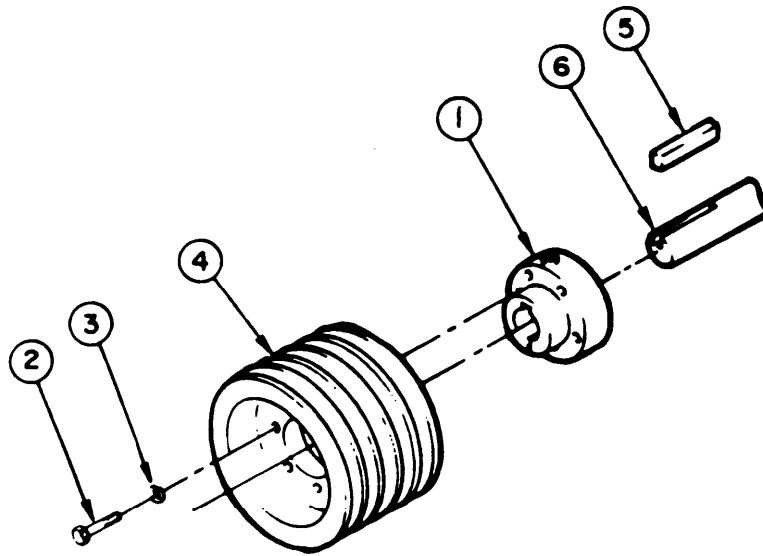
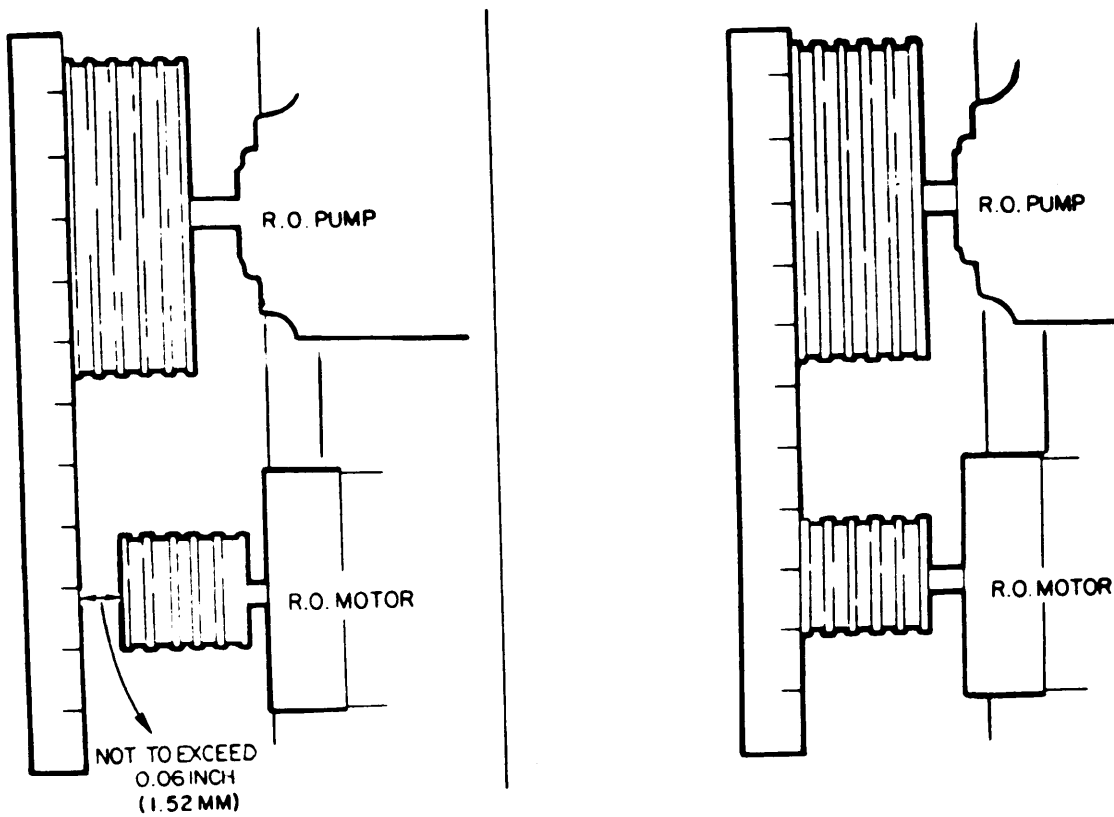

Figure 2-52. R.O. Pump Motor Sheave Assembly
Figure 2-53. R.O. Pump Motor Sheave
b. Removal. (Figure 2-52)
- (1) Remove R.O. pump belt shroud in accordance with paragraph 2-75.
- (2) Remove R.O. pump belts in accordance with paragraph 2-76.
- (3) Remove three bolts (2) and three lockwashers (3) from hub (1) and sheave (4).
- (4) Remove pump motor sheave (4) from hub (1).
- (5) Loosen, but do not remove, setscrew in hub (1).
- (6) Using puller, remove hub (1) from pump motor shaft (6).
- (7) Remove shaft key (5) from pump motor shaft (6).
- (1) Replace damaged pump motor sheave.
- (2) Replace damaged or worn hub.
- (3) Replace all damaged screws, nuts, bolts, and washers.
f. Installation. (Figure 2-52 and Figure 2-53)
- (1) Insert shaft key (5) into keyway of pump motor shaft (6). Align with front of shaft (figure 2-53).
- (2) Place sheave (4) on hub (1) and attach with three lockwashers (3) and three bolts (2).
- (3) Press hub (1) (figure 2-52) onto shaft (6) and align motor sheave with pump sheave within 0.06 inch (1.52 mm) with a straight edge (figure 2-53).
- (4) Tighten setscrew on hub (1) into key.
- (5) Replace drive belts in accordance with paragraph 2-76.
- (6) Recheck alignment of both sheaves.
- (7) Replace R.O. pump belt shroud in accordance with paragraph 2-75.